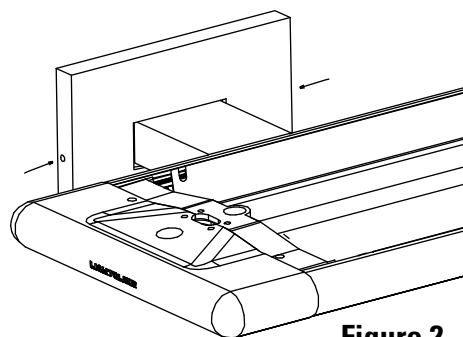

Figure 2
- A. Loosen the set screws on each of the wall canopies. (Fig. 2)